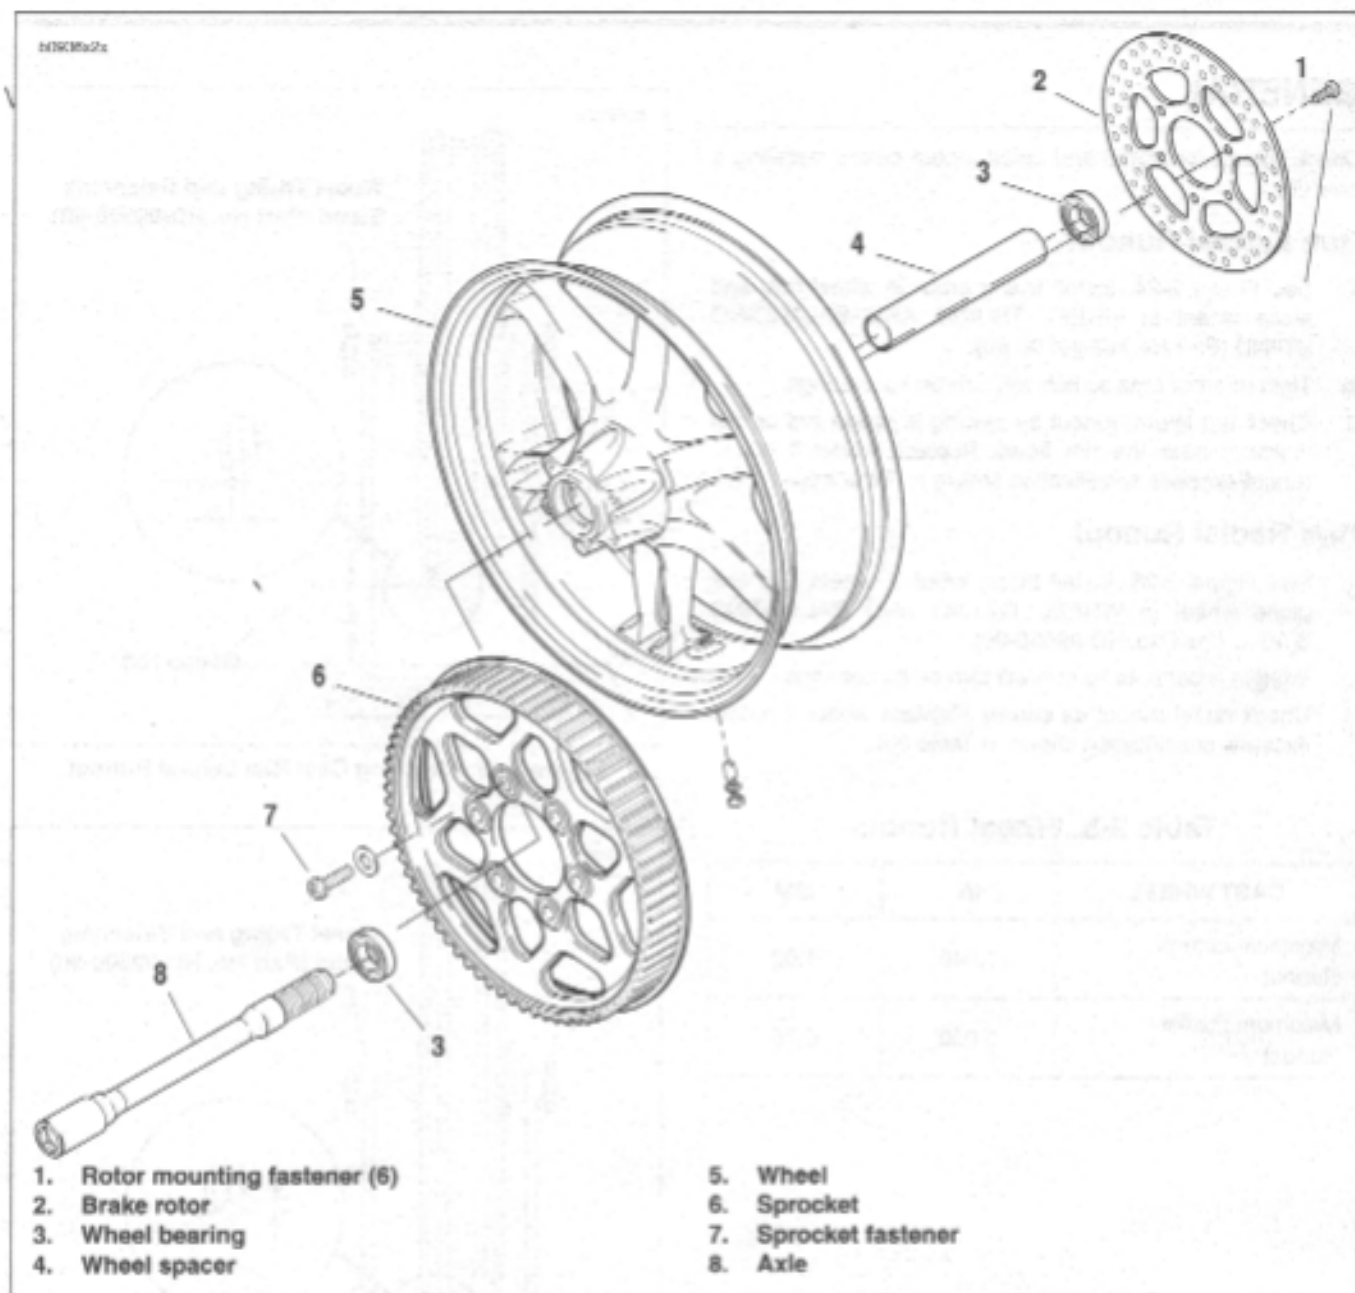

Figure 2-23. Rear Wheel Assembly
- a. See Figure 2-23. Remove and discard rotor mounting fasteners (1).
1. See Figure 2-23. Install wheel bearing (3) on rotor side of motorcycle.
2. Install rear wheel spacer (4).
3. Install wheel bearing (3) on sprocket side of motorcycle. Remove rear wheel bearing. The procedure for the rear wheel bearing installation is the same as front wheel bearing installation. See Bearing Installation in 2.5 FRONT WHEEL.
- a. Position sprocket (6) on wheel (5) keeping lip of sprocket facing the inside.
- b. Install **new** sprocket fasteners (7) and washers tightening to 35-37 ft-lbs (48-50 Nm).
5. See Figure 2-23. Install rear rotor (2).
- a. Position rear brake rotor (2) on wheel (5).
1. See Figure 2-23. Install the rear axle by threading partially into swingarm.